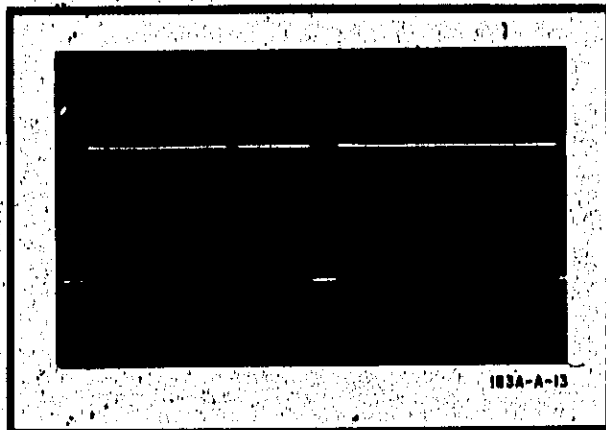

Figure 3-2. Scale Illumination, Normal Floodgun Mode.
- e. For photography, adjust trace brightness slightly above background level. Expose film using normal procedures for camera used. Shutter time and aperture should be set for a gray background as shown in Figure 3-2.